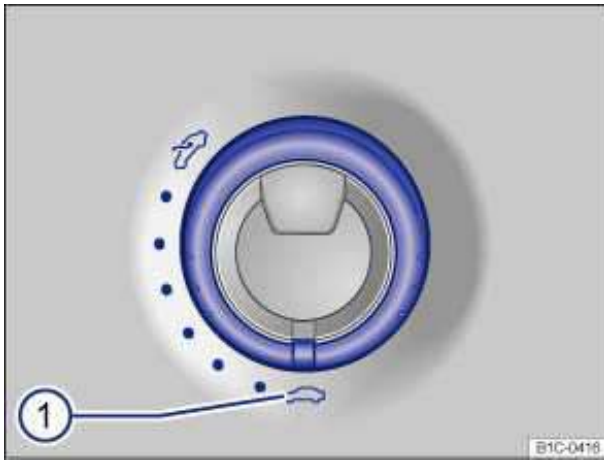

Fig. 30 In the headliner: Sunroof rotary switch.
- The switch must be rotated to the “Closed” position ⇒ fig. 30 (1).